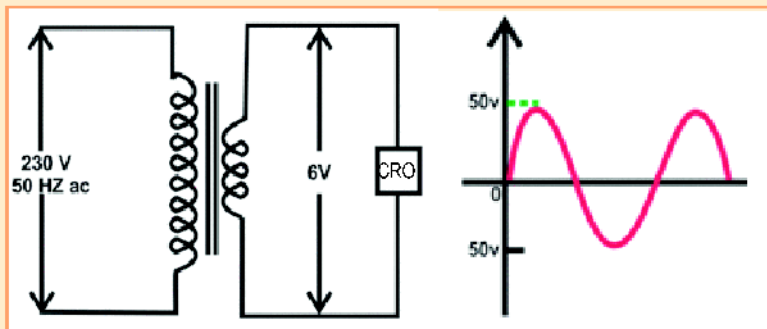

Fig7.2
- Connect the primary of a 230/6 V transformer to AC supply as shown in Fig 7.2 and observe the signal in the transformer secondary using a CRO. What is your observation?